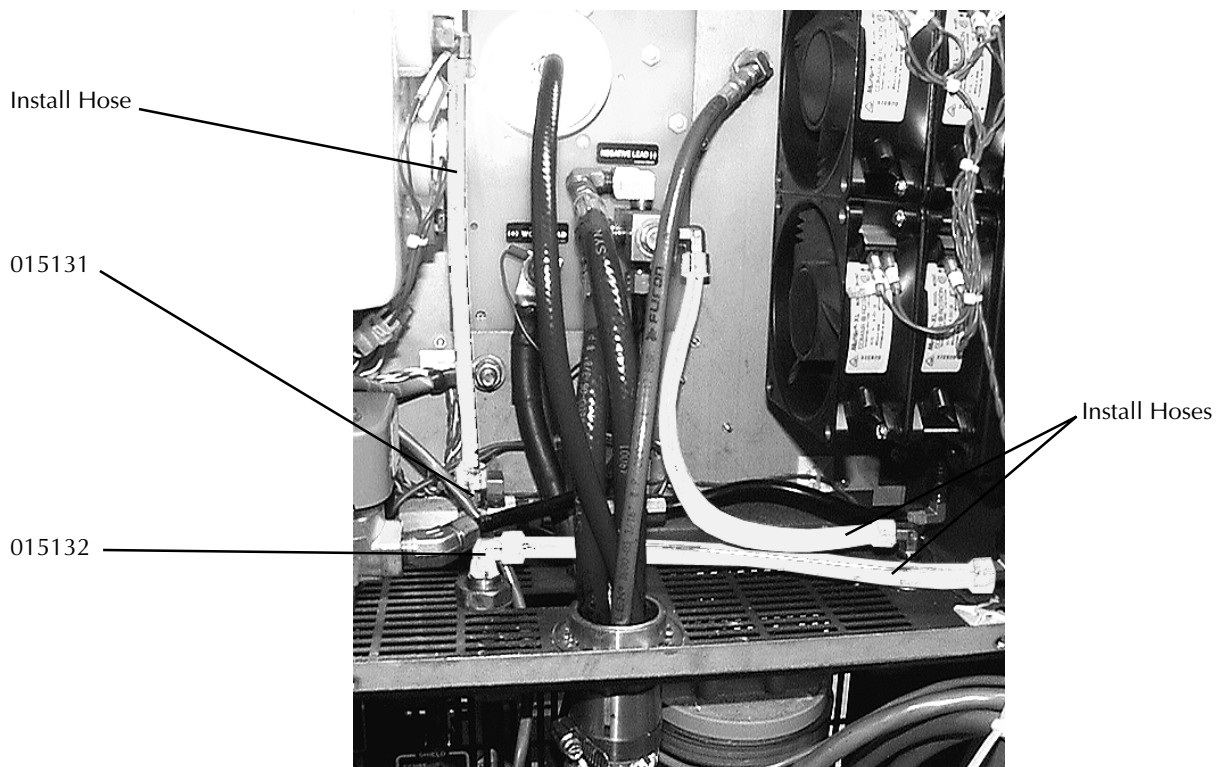

Figure 6 Installing New Hoses
1. Attach the two adapters (015131 and 015132) from the kit in the two locations indicated in Figure 6.
2. Install the hoses that are shown in white to the locations indicated in Figure 6. Tighten fittings to 75-85 lbf-in (86-98 kgf-cm) of torque.